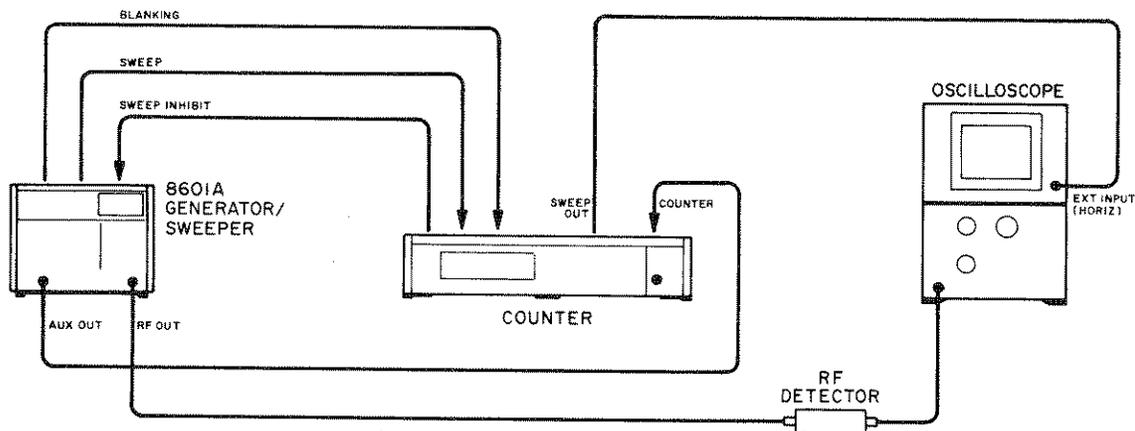

Figure 4-1. Sweep Characteristics Test Setup
1. Connect equipment as shown in Figure 4-1.
1. Use equipment setup of Figure 4-1.